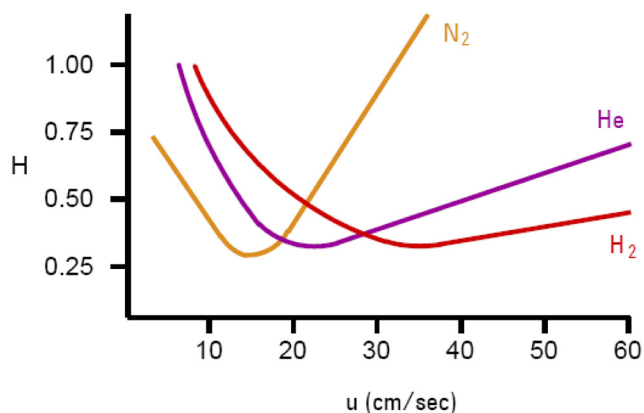

Figure 5. Van Deemter curves for nitrogen, helium, and hydrogen.
- 5** The optimum column average velocity range for helium is 20 to 40 cm/sec. For hydrogen, it is 30 to 55 cm/sec. If the flow of helium or hydrogen is too low, peak resolution is lost much faster than if it is too high. Always operate at or above the minimum average linear velocity if possible (see **Figure 5** on page 18).